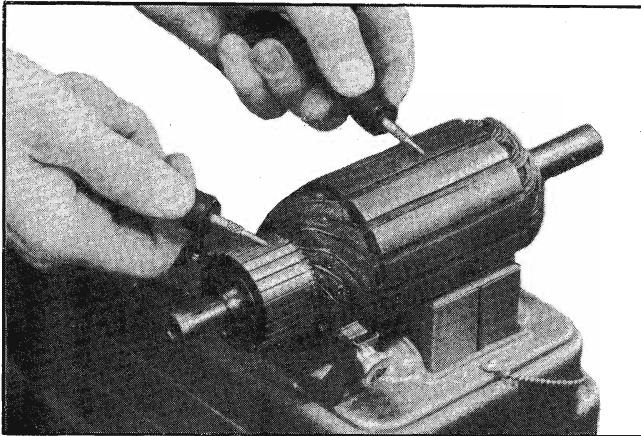

Fig. 11-40 Testing Armature for Ground
b. Using 110-volt test lamp, place one lead on the armature core or shaft and the other on the commutator (Fig. 11-40). If the lamp lights, the armature is grounded and must be replaced.